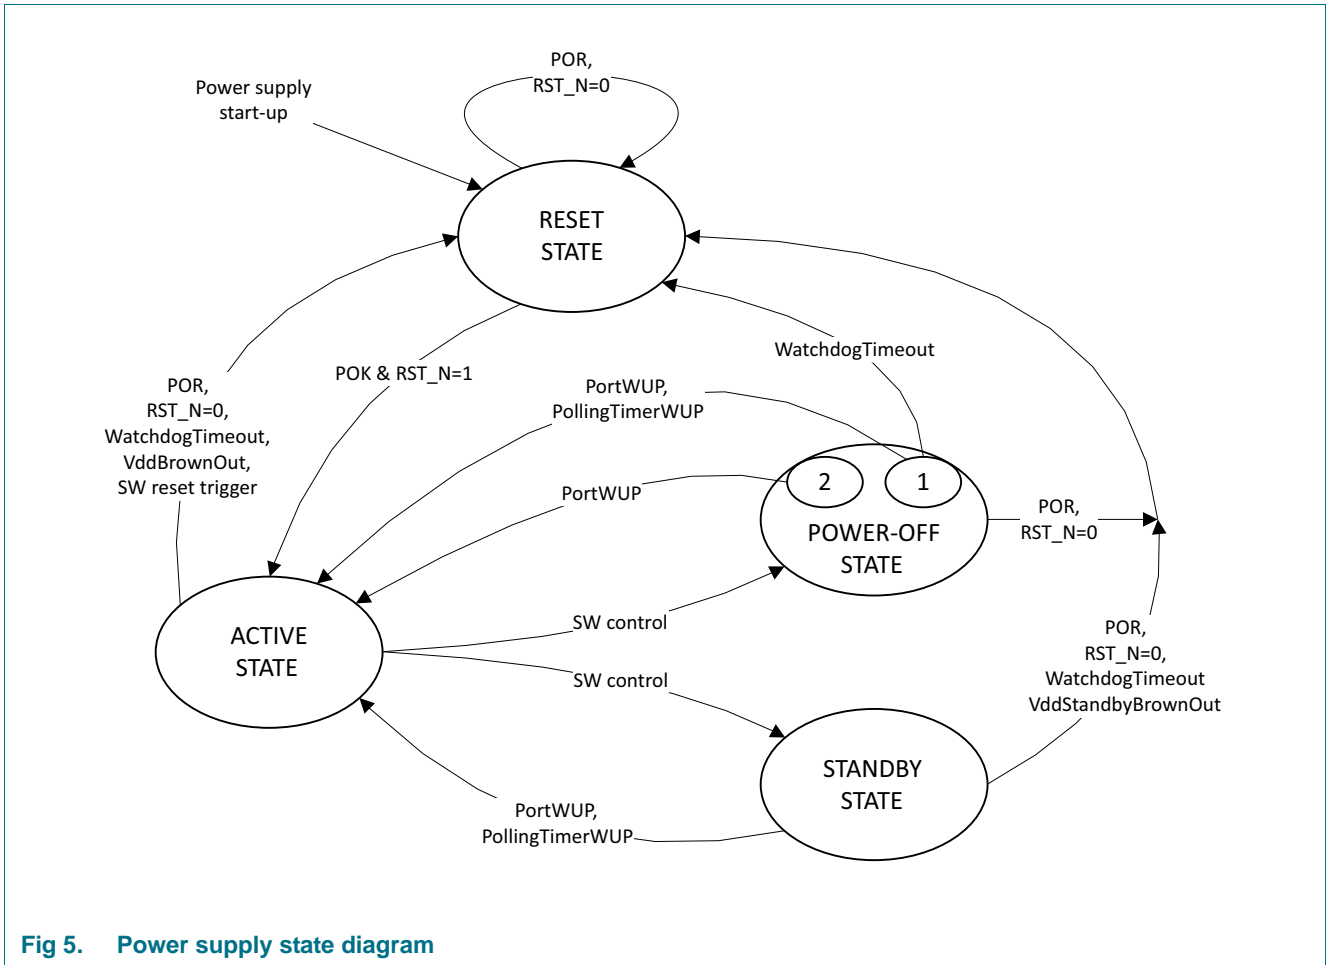

Fig 5. Power supply state diagram
The state diagram for the functional power supply states is given in Figure 5:
- Low noise figure: 5 dB typically @ 434MHz